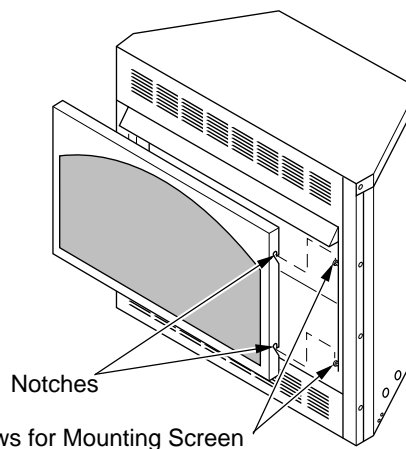

Figure 32 - Installing Fireplace Screen (Model VYGF33NRB shown)
2. Install fireplace screen by slipping notches of fireplace screen over screws on front of fireplace (see Figure 32).